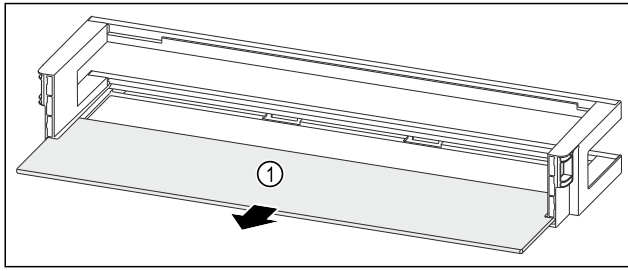

Fig. 201 Door rack with shelf
- ▶ Remove the shelf Fig. 201 (1).